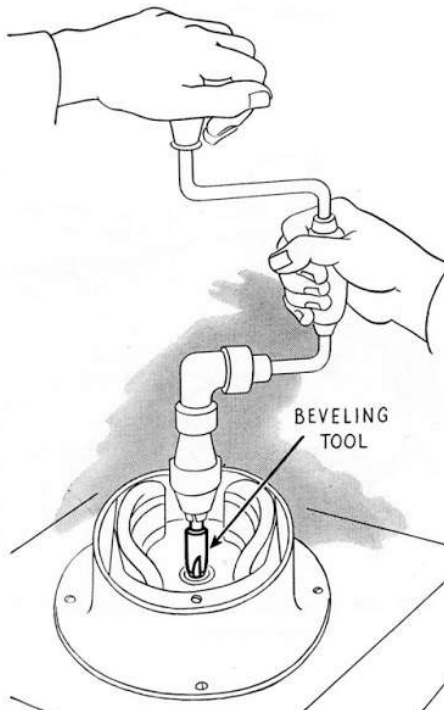

FIG. 63—Beveling lower bearing
6. Bevel the inside edges of the lower bearing, using Tool No. 117. See Figure 63.